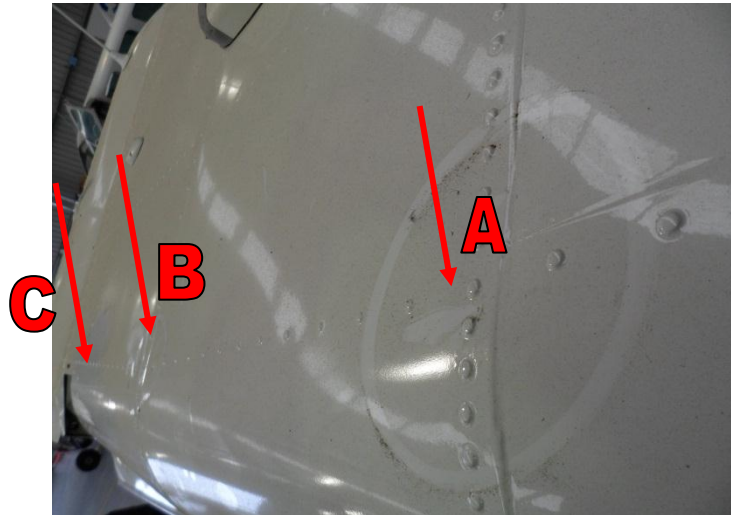

Figure 2: Location of the Holes on the Roof.
- 1.2. Locate and remove the appropriate rivets in the roof structure, figure 2 and 2a, 2b, 2c.